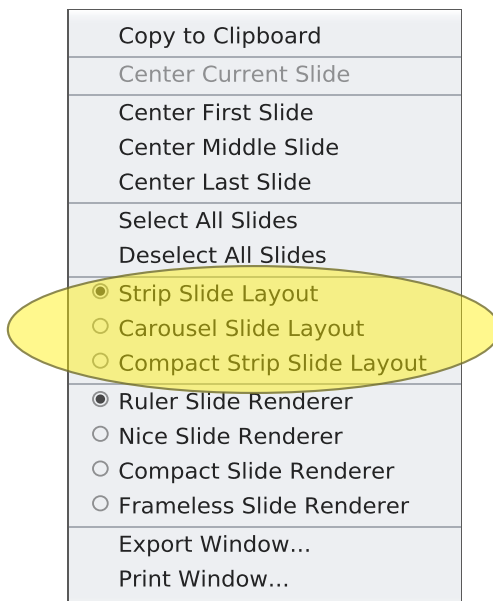

Figure 1.72: Context Menu Slide Show
- ▶ Open the context menu (see [Figure 1.72 \[p 85\]](#)) and invoke one of the ... **Slide Layout** actions.